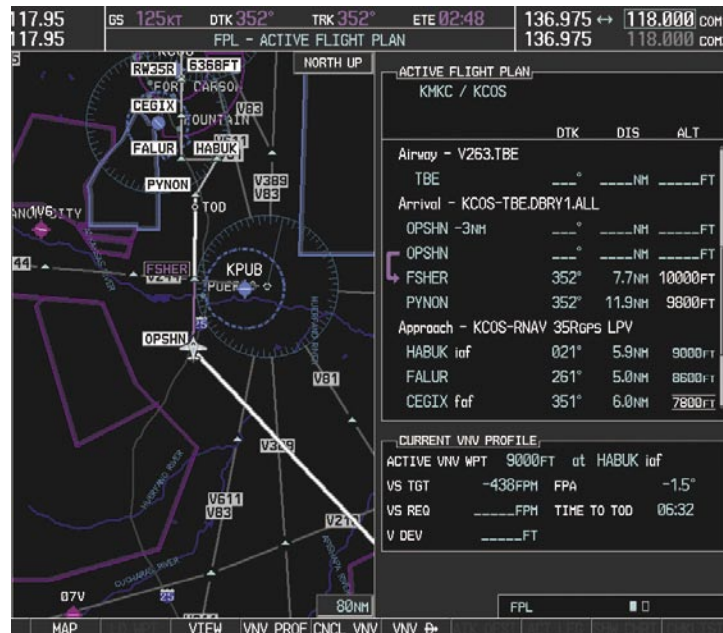

Figure 5-132 Tracking the OPSHN to FSHER Leg
- 19) After passing OPSHN, the next leg of the arrival turns magenta as shown in Figure 5-132. The magenta arrow in the flight plan list now indicates the OPSHN to FSHER leg of the arrival procedure is now active.